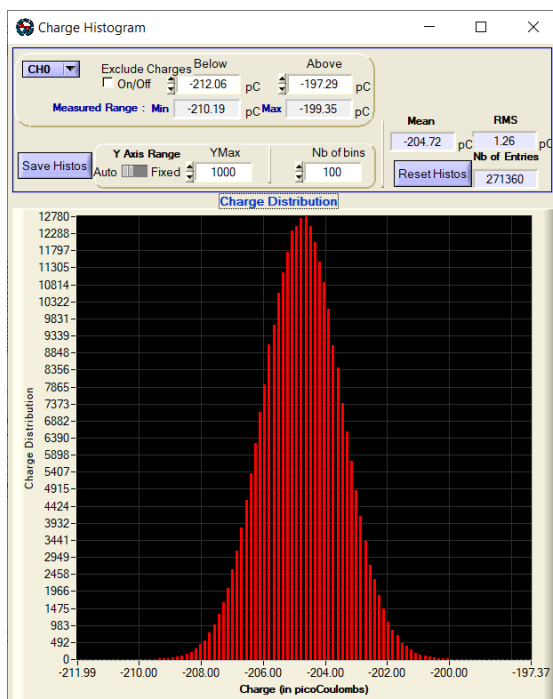

Fig. 7.19: Charge Histogram dialog box
- **Show Histogram:** opens the Charge Histogram dialog box (Fig. 7.19) where it is possible to select the channel to plot, possibly configuring the charge region of interest to be plotted (*Measured Range*); an auto Y-axis scaling or